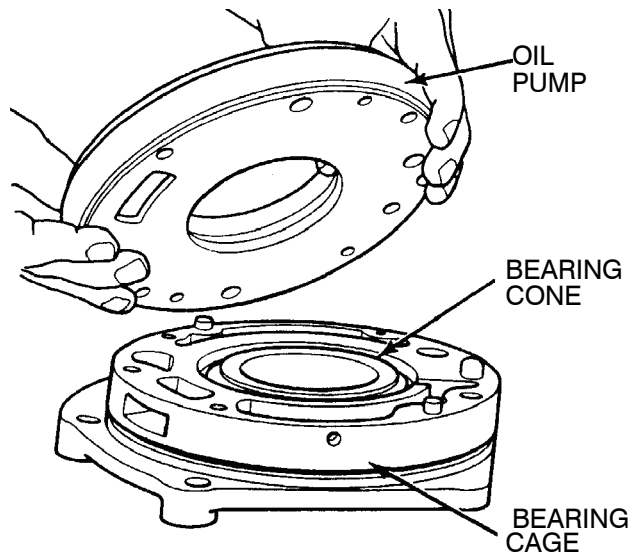

Figure 25. Oil Pump Removal.
- (d) Remove the capscrews that fasten the oil pump to the input bearing cage. Separate the oil pump from the cage. Figure 25.